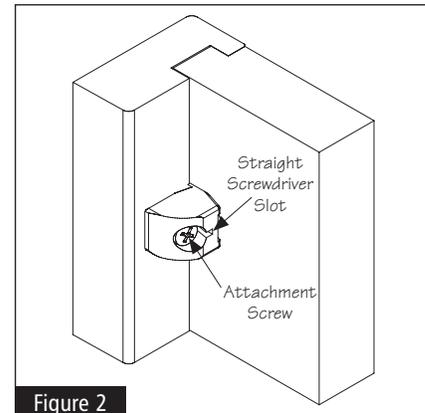
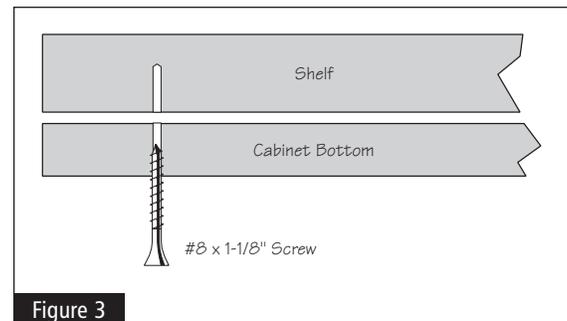

Figure 2
Figure 3
**NOTE:** For cabinets with 3/4" thick Side Panels, the bottom two Return Fasteners will have to be removed prior to placing the shelf into the cabinet. To remove the Return Fastener, remove the attachment screw and use a Straight Screwdriver to rotate the Return Fastener, see Figure 2. Then pull the Return Fastener out of the cabinet side panel. Reattach the two Return Fasteners after the shelf is in the cabinet. See Figure 3.